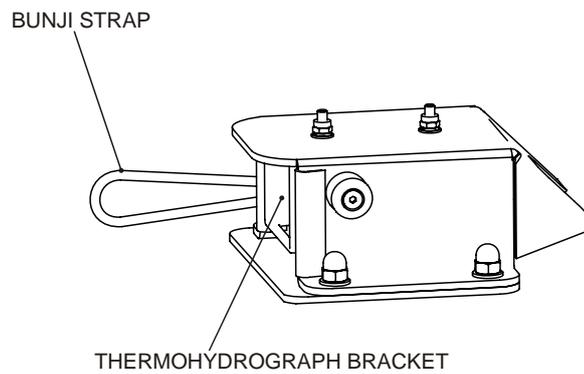

Figure 9 Thermohydrograph Replacement
- b. Remove bunji strap securing the thermohydrograph in its holder (Figure 9).